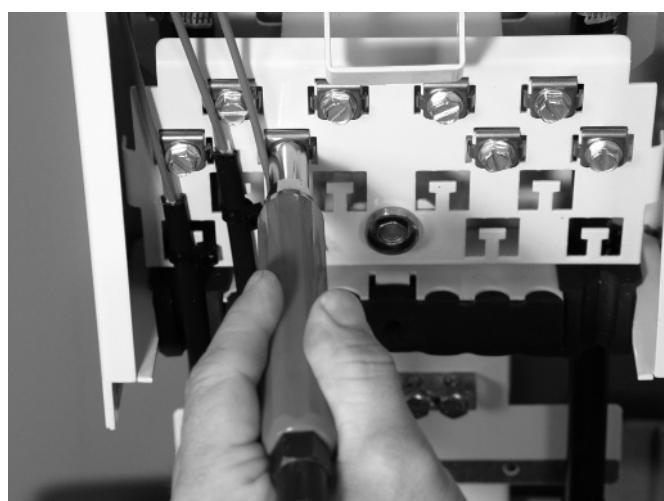

Figure 16
3. Starting on the opposite side of the feeder cable, place a cable tie loosely around the cable and slide the strength member under the cable attachment plate and tighten. (Figure 16) Position the cable tie under the dog bone and tighten.